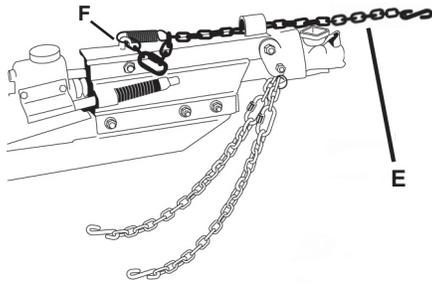

Figure 9
ATs with brakes have a third chain, called the emergency brake chain (E) (Figure 9). This chain applies the brakes automatically in the unlikely event of a separation of the AT from the tow vehicle. Attach this chain as close to the vehicle center as possible; to the tow vehicle permanent hitch, "D"-rings, frame or structure, or to the bumper brackets. The "S"-hook on this chain should be hooked to an
⚠ NEVER tow the AT unless the emergency brake lever (F) is in the fully rearward and down position. (Figure 9) See decals also, for proper position of emergency brake lever for towing. The emergency brake chain (E) is attached to the emergency brake lever (F) on top of the hydraulic brake mechanism. When the emergency brake chain is pulled forcefully, the emergency brake lever will move forward and lock, activating the AT brakes.